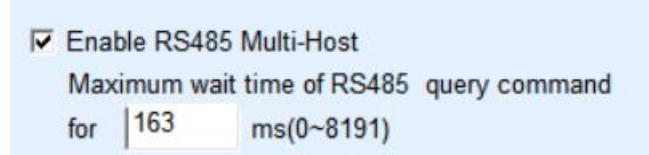
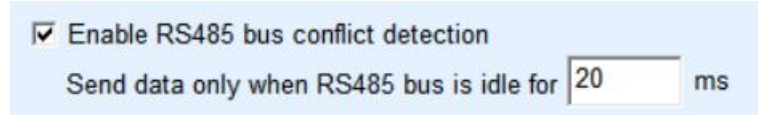

Figure 42 RS485 multi host support
Figure 43 RS485 Conflict prevention idle time
1. Figure 43 shows the RS485 bus collision prevention time. Generally, you can set it to twice the value of Packet Interval in the lower right corner of the parameter configuration page, but the value cannot be less than 20.
2. Figure 42 shows the "RS485 command response timeout time", which is
At this time, it should be noted that the two check marks "RS485 bus collision prevention time" as shown in Figure 43 and "RS485 command response timeout time" as shown in Figure 42 need to be removed. Otherwise, the preceding forwarding function cannot be implemented.